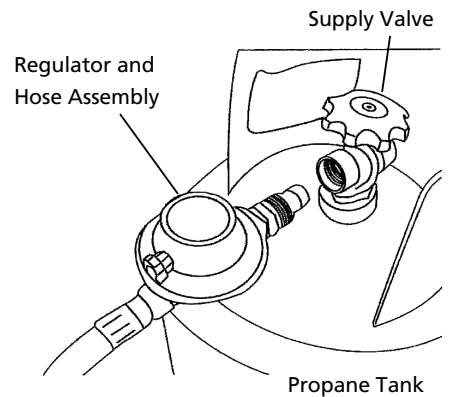

Figure 7 – Proper Regulator Connection
- IMPORTANT:** Tighten regulator with vent pointing down. Pointing vent down protects regulator from weather damage (Figure 7).